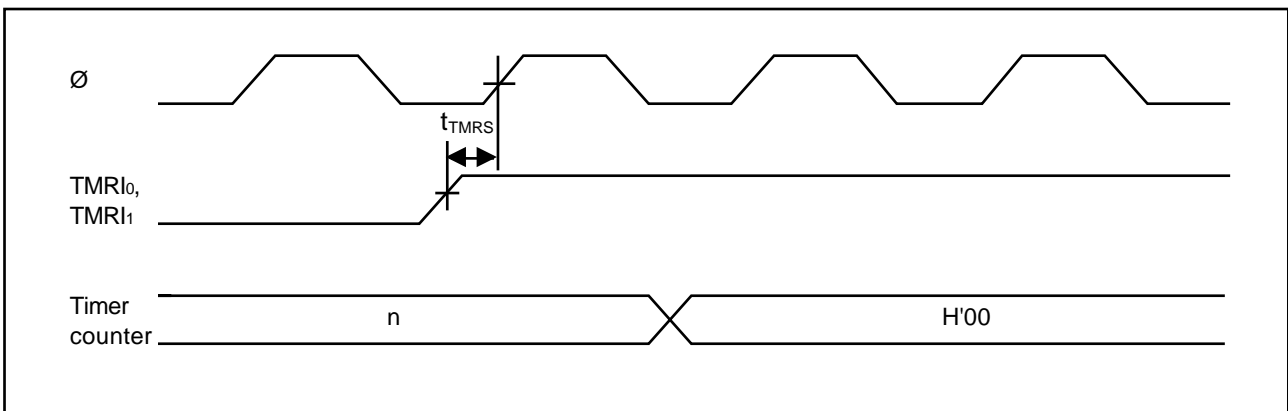

Figure 15-15. 8-Bit Timer Reset Input Timing
| | Timer reset input setup time | t _{MRS} | 80 | – | 50 | – | 50 | – | 50 | – | ns | Fig. 15-15 |
- 15.3.6 SCI Timing Figures 15-15 to 15-17